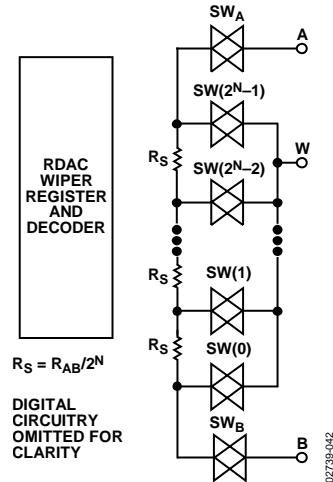

Figure 43. Equivalent RDAC Structure (Patent Pending)
The patent-pending RDAC contains multiple strings of equal resistor segments with an array of analog switches that act as the wiper connection. The number of positions is the resolution of the device. The AD5231 has 1024 connection points, allowing it to provide better than 0.1% settability resolution. Figure 43 shows an equivalent structure of the connections among the three terminals of the RDAC. The SW_A and SW_B are always on, while the switches SW(0) to SW(2^N-1) are on one at a time, depending on the resistance position decoded from the data bits. Because the switch is not ideal, there is a 15 Ω wiper resistance, R_w. Wiper resistance is a function of supply voltage and temperature. The lower the supply voltage or the higher the temperature, the higher the resulting wiper resistance. Users should be aware of the wiper resistance dynamics if accurate prediction of the output resistance is needed.
The 10-bit data-word in the RDAC latch is decoded to select one of the 1024 possible settings. The following discussion describes the calculation of resistance R_{WB} at different codes of a 10 kΩ part. For V_{DD} = 5 V, the wiper's first connection starts at Terminal B for data 0x000. R_{WB}(0) is 15 Ω because of the wiper resistance, and because it is independent of the nominal resistance. The second connection is the first tap point where R_{WB} (1) becomes 9.7 Ω + 15 Ω = 24.7 Ω for data 0x001. The third connection is the next tap point representing R_{WB} (2) = 19.4 Ω + 15 Ω = 34.4 Ω for data 0x002 and so on. Each LSB data value increase moves the wiper up the resistor ladder until the last tap point is reached at R_{WB} (1023) = 10,005 Ω. See Figure 43 for a simplified diagram of the equivalent RDAC circuit. When R_{WB} is used, Terminal A can be left floating or tied to the wiper.